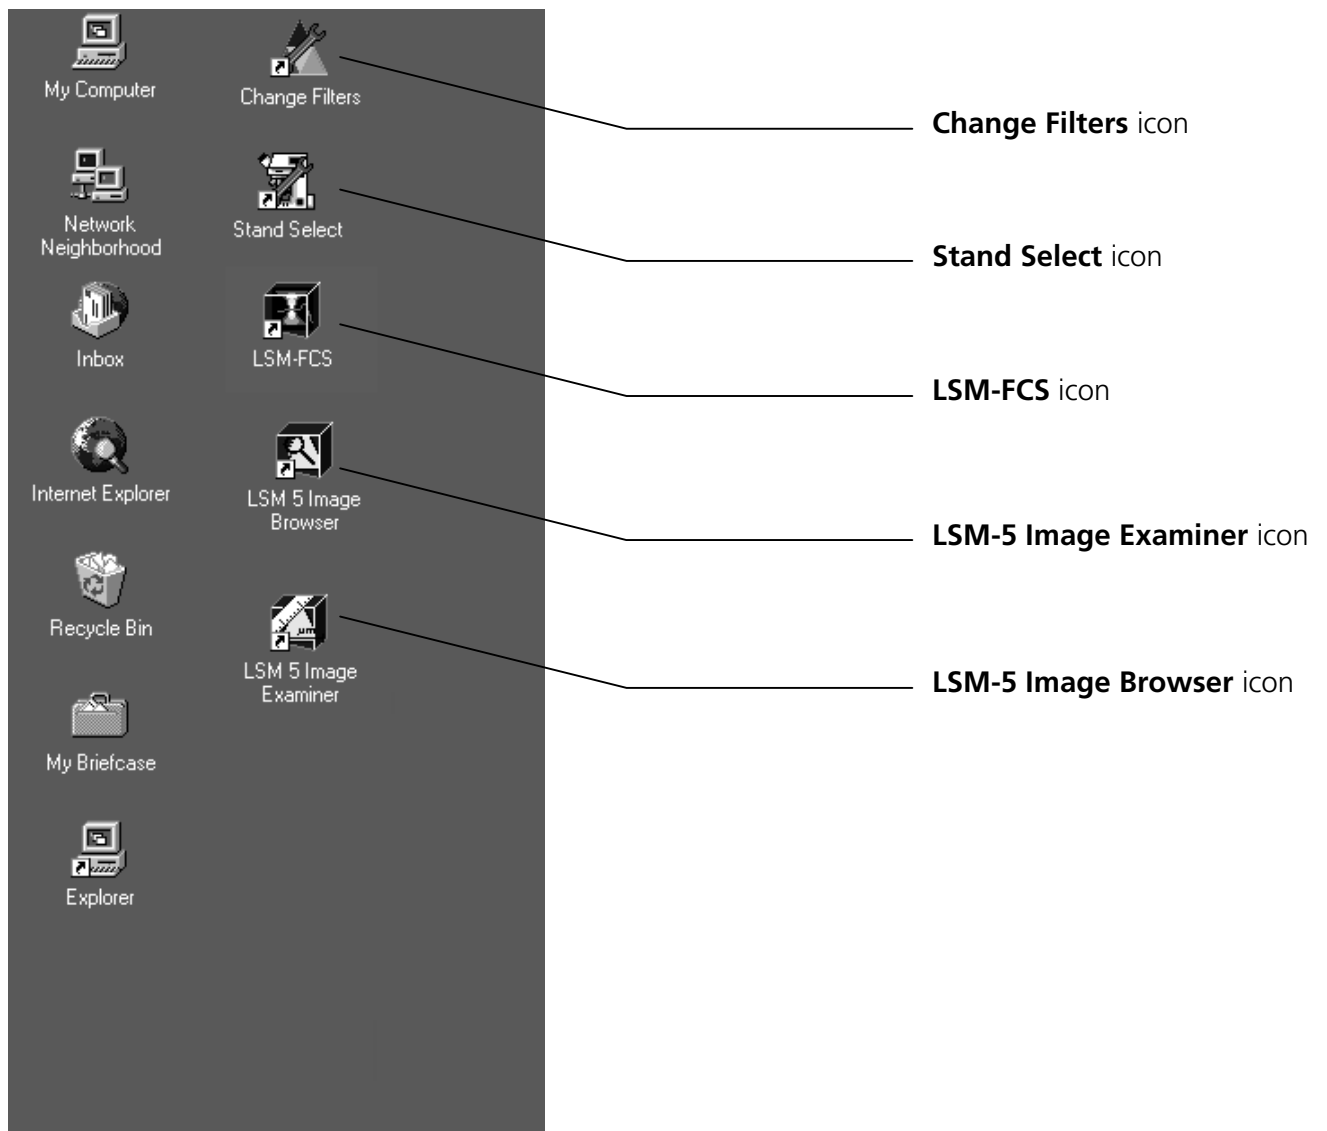

Fig. 5-5 WINDOWS NT operating system desktop
- Double-click on the **LSM-FCS** icon on the desktop of WINDOWS to start the LSM-FCS software program (see Fig. 5-5).